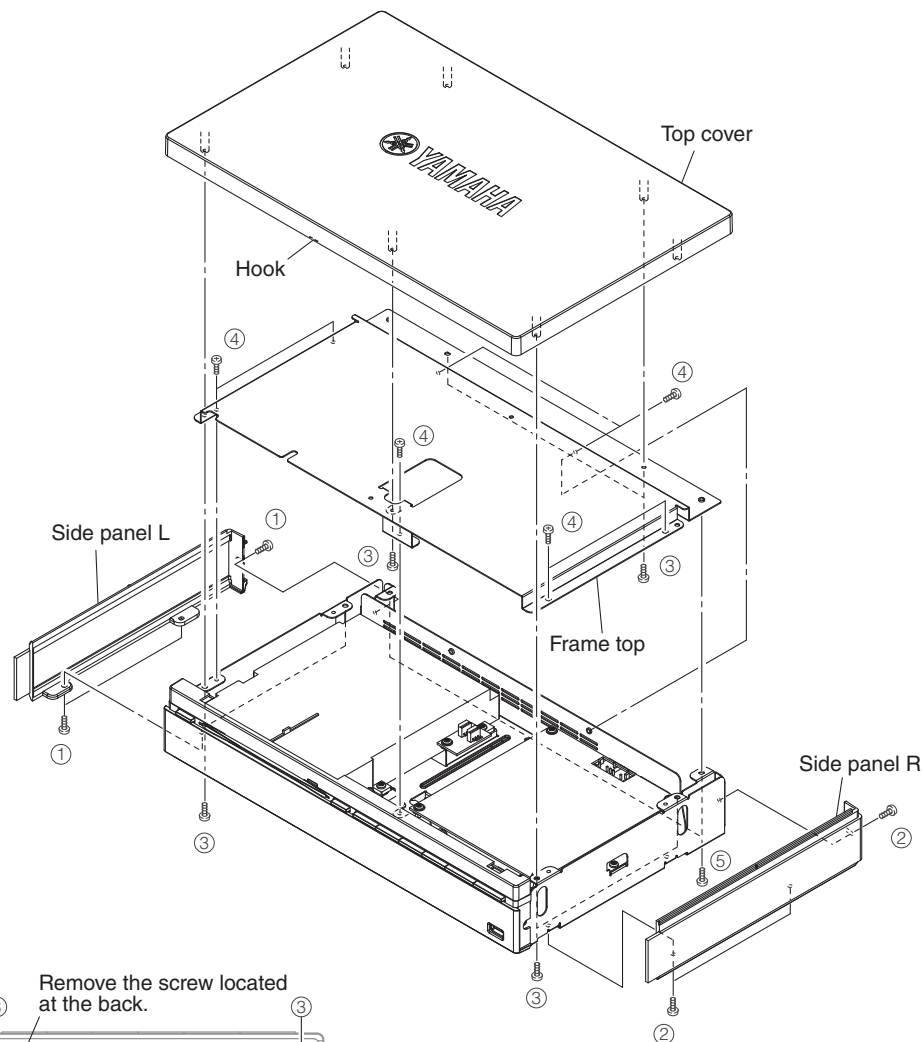

Fig. 1
- Remove 3 screws (①). Remove the side panel L. (Fig. 1)
- Remove 3 screws (②). Remove the side panel R. (Fig. 1)
- Release a hook. Remove the top cover. (Fig. 1)
- Remove 7 screws (④). (Fig. 1)
- Remove the frame top. (Fig. 1)